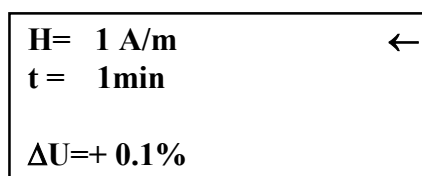

Figure 2
6.5 Connect the power cable to the socket on the rear panel and to the power outlet 220 V ; 50 Hz. Turn on the test generator by "POWER (СЕТЬ)" switch. The message shown in Figure 2 should be displayed. If the message "MISCONNECTION! (НЕПРАВИЛЬНОЕ ПОДКЛЮЧЕНИЕ!)" is displayed, turn off the generator and upturn the plug. If the same message is shown when you turn it on again, check the existence and integrity of the power ground.
7.1. After the generator is turned on by "**POWER (СЕТЬ)**" switch, text and an arrow cursor appear in the top line (ref. Figure 2). The cursor is moved by "↓" and "↑" keys.